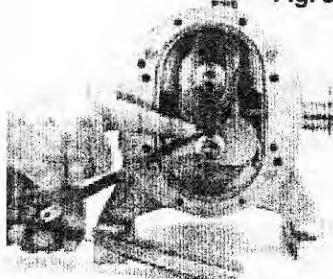

Fig. 8
1. Measure the interlobe clearances with feeler gauges in the positions as shown in fig. 8 and 9 (6). If this clearance varies by more than stated in section 6.7. (column "Interlobe"), it is necessary to re-time the rotors.
2. Remove can (37) and can support (35) as described in section 4.4.
3. Loosen auxiliary shaft (36) gear nut (29) and ease the gear (26) away from the bearings 1 mm.